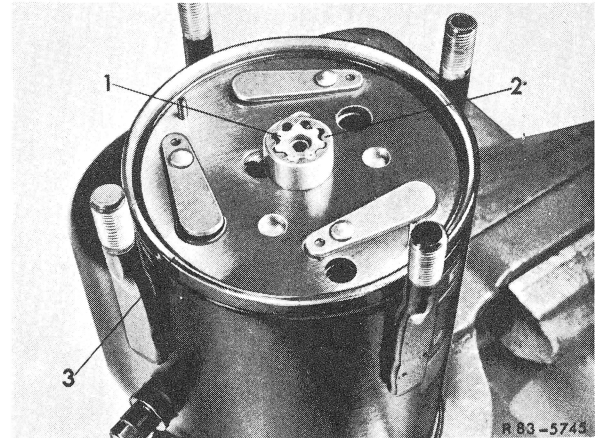

Fig. 11
**7** Make identifying mark on exposed surfaces of (inner and outer oil pump gears, then remove gears Fig. 11).
**34** Install rear discharge valve plate over dowel pins (Fig. 11).
**35** Slide inner oil pump gear wheel (1) on shaft, with previously applied identification mark up (Fig. 11).
**36** Slide outer oil pump gear wheel (2) over inner gear wheel (1) with previously applied identification mark up (Fig. 11).
**38** Lubricate new sealing ring (3) between headpiece and housing with refrigeration oil and place on rear discharge valve plate or in housing (Fig. 11).